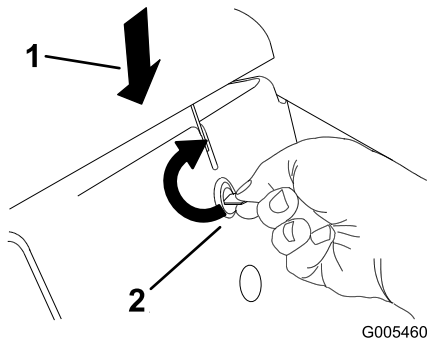

Figure 27
1. Push down on the hood while using a coin or screwdriver to turn the hood latch clockwise (Figure 27).